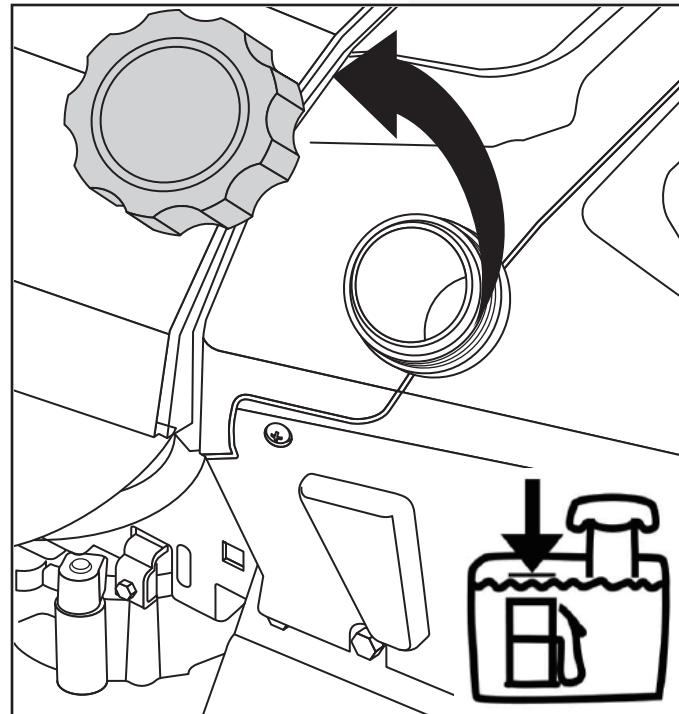

Fig. 15
- Remove the fuel cap. (Fig. 15)